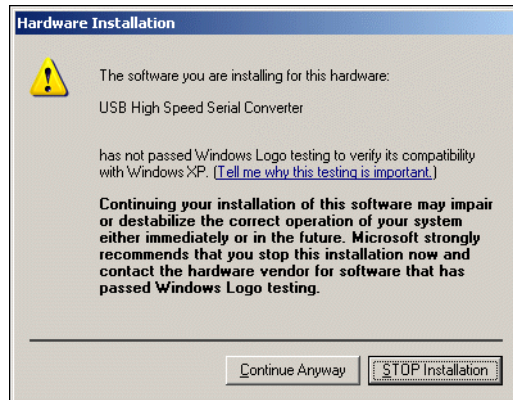

Figure 4-11. Install hardware drivers dialog box
- 7 Click Next. A security warning may appear (Figure 4-11).
- 3 Select "Search for suitable driver..." and click Next. The Locate Driver Files dialog box appears (Figure 4-11).